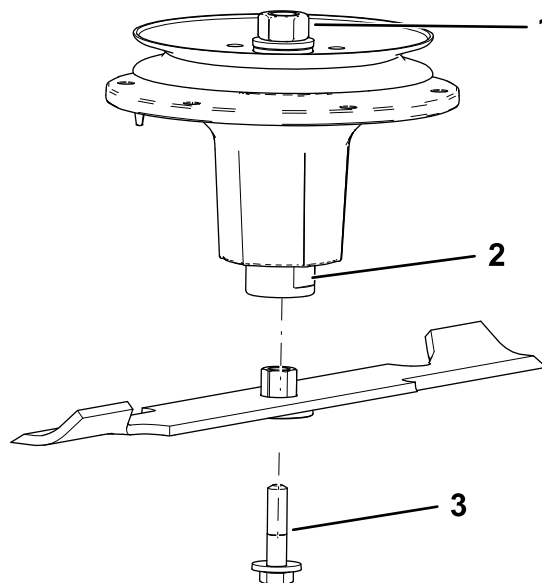

Figure 113
2. Install the bushing/blade assembly into the spindle shaft (Figure 113).